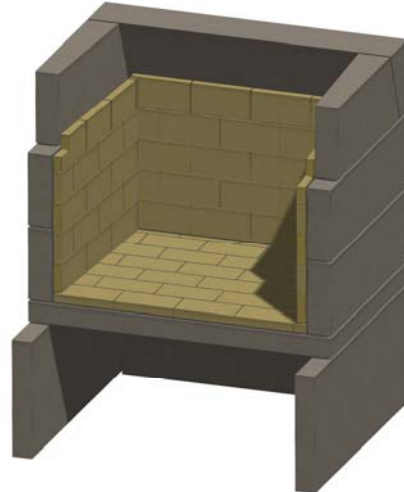

Figure 19. Sidewall Firebrick
K. Install firebrick on the side walls, with the brick laid on edge. The brick lay up on approximately 1/3 of the upper sidewall, and a notch should be cut in the front brick on each side, to allow them to clear the front lintel piece (to be installed later). See Figure 19.